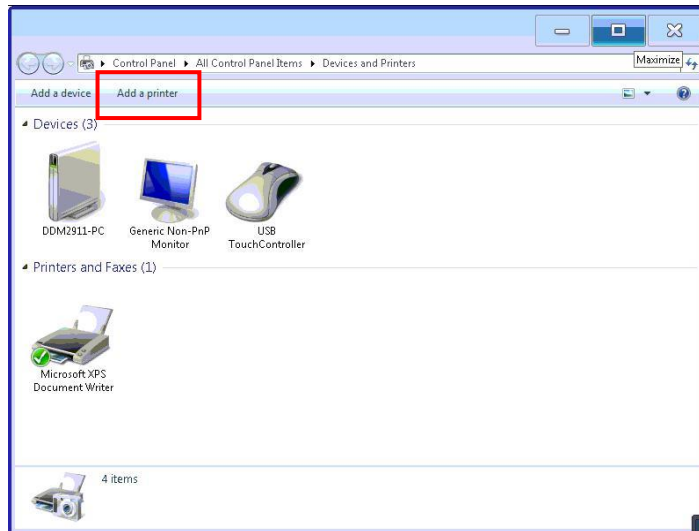

Figure 10.25 – Select add a printer
- 4) Select **Add a printer** from the menu at the top of the window. (see figure 10.25) below